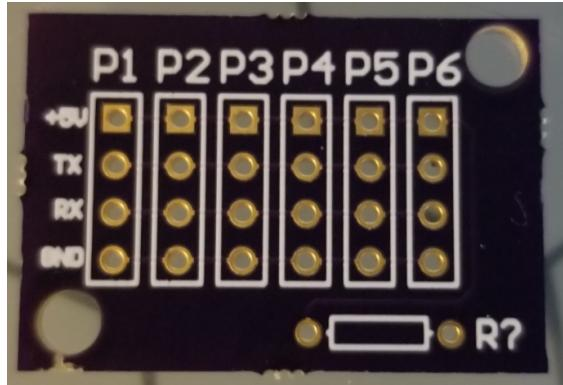

Figure 14: Unpopulated Serial Splitter Board
1. The board will come unpopulated and will look like the board in Figure 14. First solder the 4.7K resistor and all of the header pins into the board.